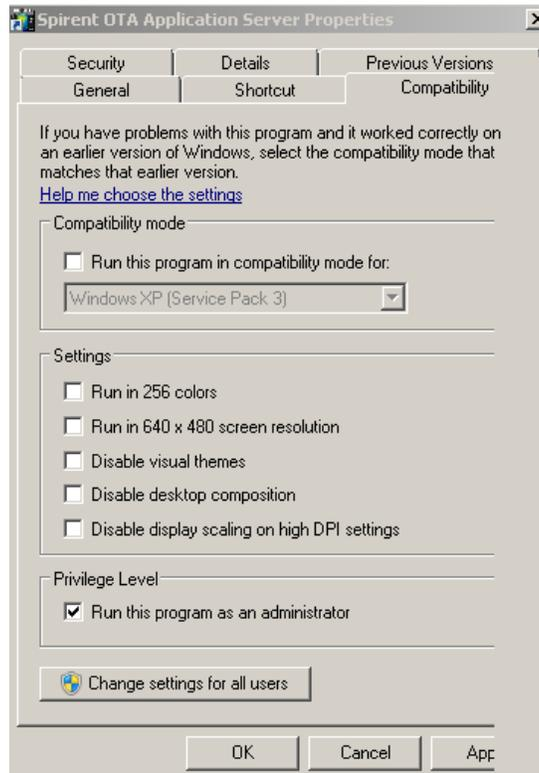

Figure 6-6: OTA App Server Properties – Compatibility Tab
2. Under the *Compatibility* tab shown in Figure 6-6, enable the **Run this program as an administrator** option.